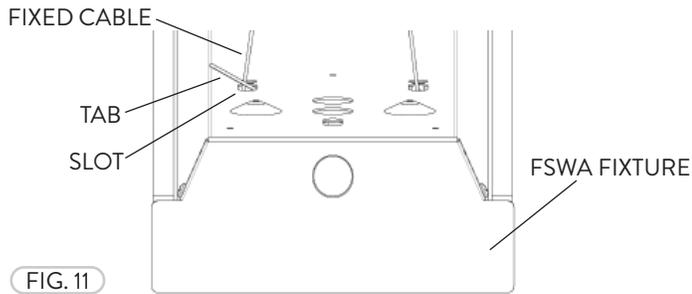

FIG. 11
- 2 Using the Aircraft Cable (with tabs on both ends), insert the tabs into the FSWA fixture Slots on both sides (Fig. 11).